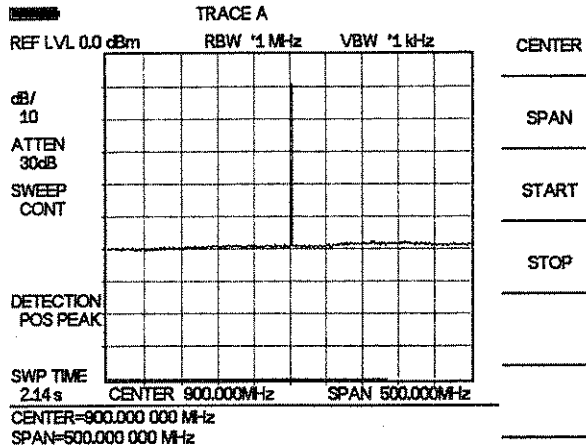

Figure 2-5. Signal at 900 MHz
- Step3.** Enter 900 on the keypad and select the MHz soft key . Observe that the signal resembles that shown in Figure 2-5.